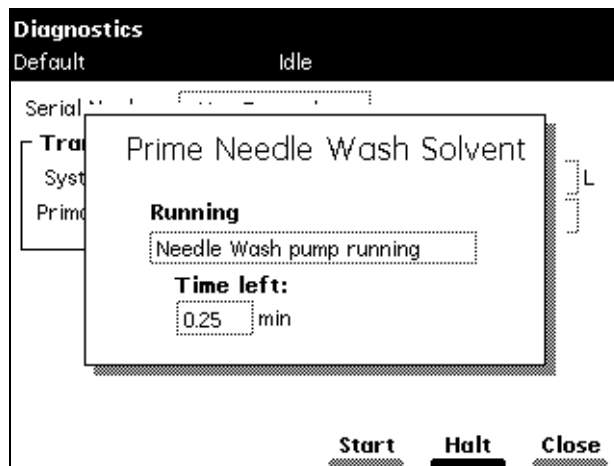

Figure 1-18 Prime Needle Wash Solvent Dialog Box
5. Press the **Prime NdlWash** screen key. The Prime Needle Wash Solvent dialog box appears (Figure 1-18).